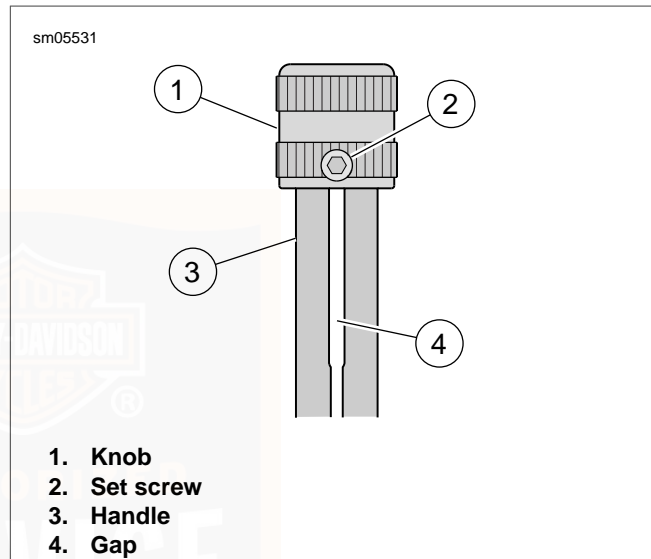

Figure 51. Park Brake
2. See Figure 51. Loosen set screw with hex wrench (provided in tool kit) and turn knob several revolutions in the appropriate direction.